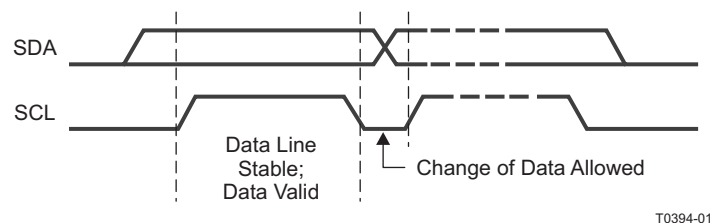
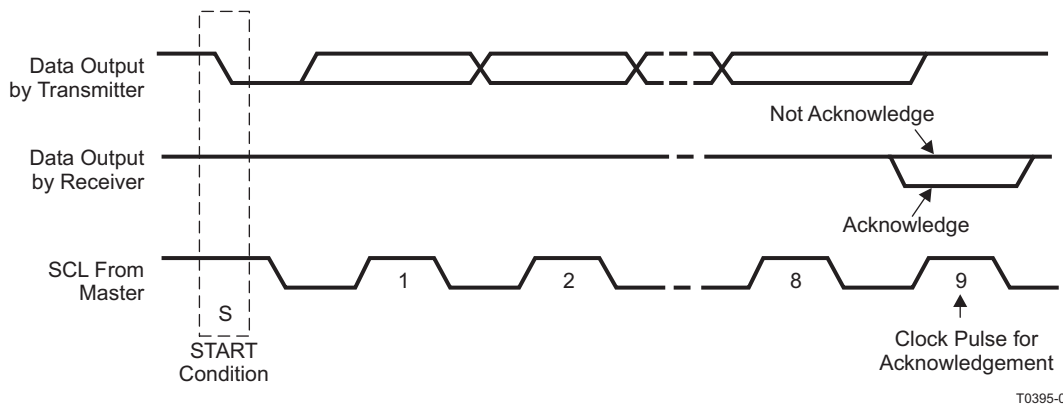

Figure 39. I²C Bit Transfer
Figure 40. I²C Acknowledge
- The master then generates the SCL pulses and transmits the 7-bit address and the *read/write direction bit* R/W on the SDA line. During all transmissions, the master ensures that data is *valid*. A *valid data* condition requires the SDA line to be stable during the entire high period of the clock pulse (see Figure 39). All devices recognize the address sent by the master and compare it to their internal fixed addresses. Only the slave device with a matching address generates an *acknowledge* (see Figure 40) by pulling the SDA line low during the entire high period of the ninth SCL cycle. On detecting this acknowledge, the master knows that a communication link with a slave has been established.